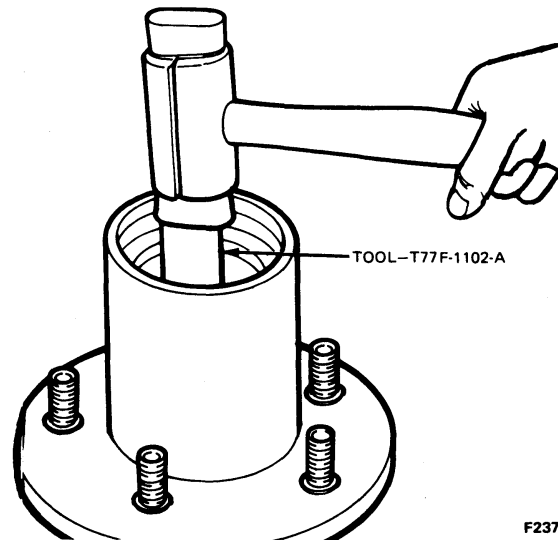

FIG. 5 Inner Bearing Cone and Grease Seal Removal
13. Carefully drive the inner bearing cone and grease seal out of the hub (Fig. 5) using Tool T77F-1102-A.
14. Inspect the bearing cups for pits or cracks. If necessary, remove them with a drift (Fig. 5). **If new cups are installed, install new bearings.**